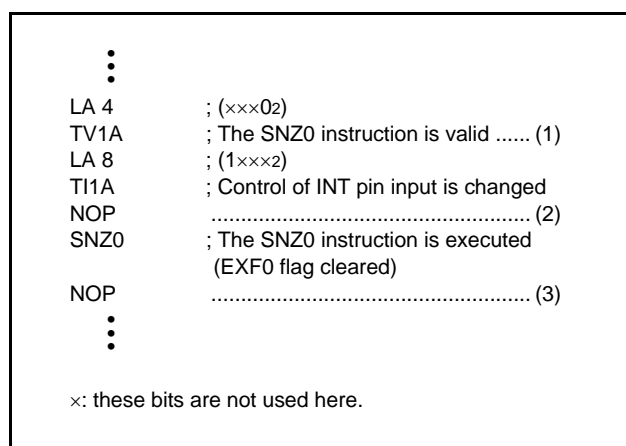

Fig 29. External 0 interrupt program example-1
- Depending on the input state of the D5/INT pin, the external 0 interrupt request flag (EXF0) may be set when the bit 3 of register I1 is changed. In order to avoid the occurrence of an unexpected interrupt, clear the bit 0 of register V1 to "0" (refer to (1) in Figure 29.) and then, change the bit 3 of register I1. In addition, execute the SNZ0 instruction to clear the EXF0 flag to "0" after executing at least one instruction (refer to (2) in Figure 29.). Also, set the NOP instruction for the case when a skip is performed with the SNZ0 instruction (refer to (3) in Figure 29.).